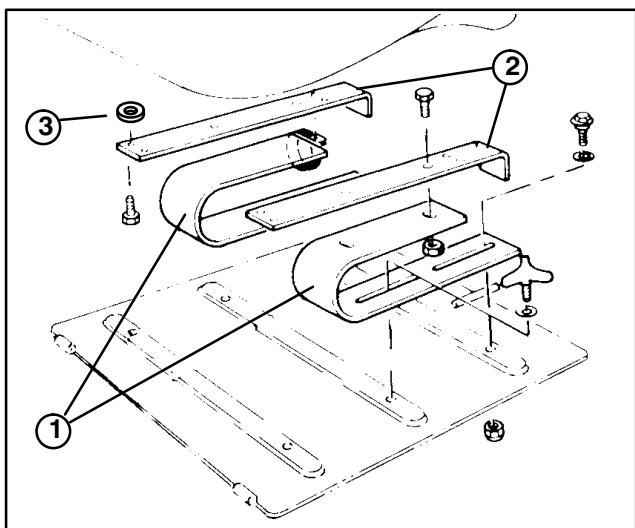

Figure 2
1. Attach "U" springs to seat mounting brackets with (4) capscrews and flange nuts as shown in figure 2.
2. Secure seat mount assemblies to bottom of seat with (4) flange head capscrews and (4) spacers. (Fig. 2). Spacers to be positioned between seat and seat mount.
5. Mount seat and spring assembly to rear holes in seat mounting plate with two shoulder bolts, small I.D. flat washers and locknuts (Fig. 2 & 5).
- 3. Shoulder bolt with washer and locknut (2)
- 4. Adjustment handle (2)
6. Secure front slot of seat springs to traction unit front mounting holes with adjustment handles and flatwashers (Fig. 2 & 5).
3. Install manual tube into R-clamps, insert manual into tube and thread cap into tube (Fig. 2). Tighten capscrews.